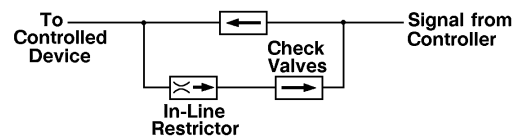

Figure 5.
- Fast to supply, slow to exhaust, refer to Figure 5.